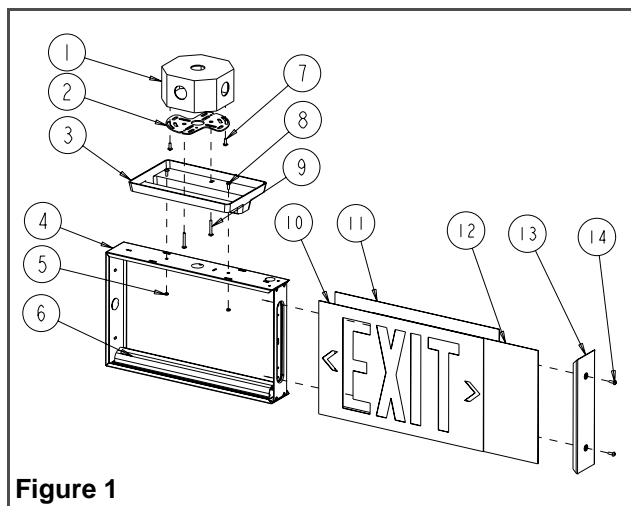

Figure 1
3. Remove exit face. To open the sign, remove screws from the end cap (See Fig. 1) and slide out the exit face and the fibreglass diffuser.